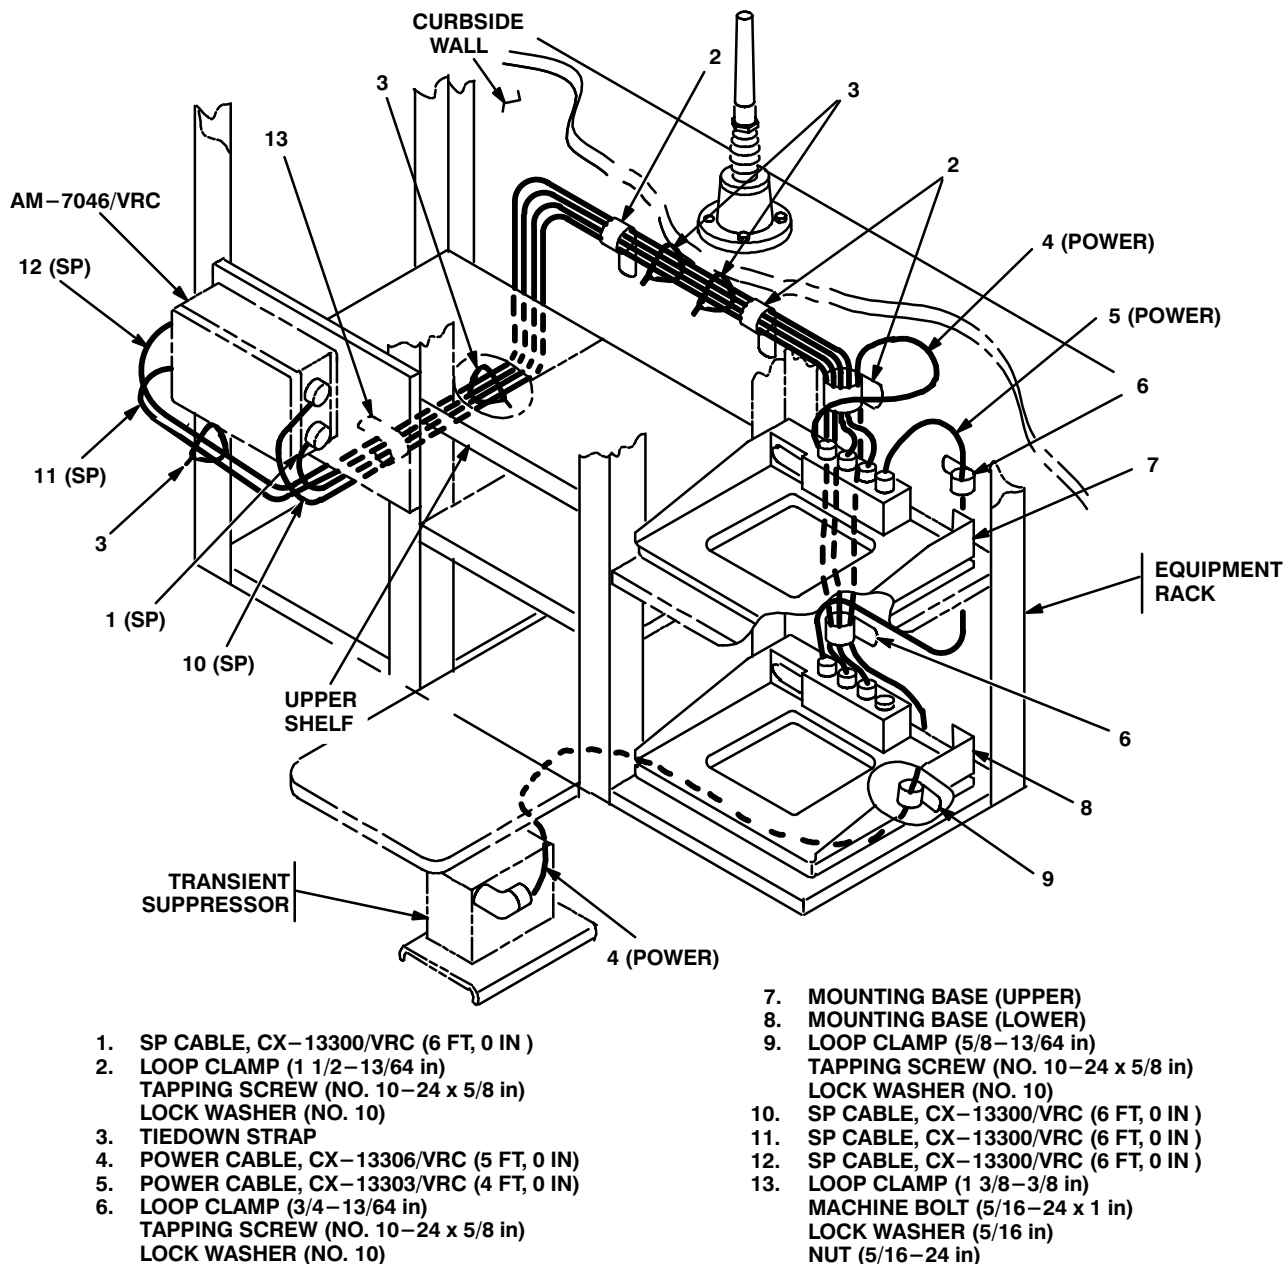

Figure 5-5 (3). Cable Installation: SP and Power Cabling
u. SP cable (11) connector P1.	Connect and secure to AM-7046/VRC connector J511. See figure 5-5 (3).
v. SP cable (12) connector P1.	Connect and secure to AM-7046/VRC connector J509.
w. SP cable (10) connector P1.	Connect and secure to AM-7046/VRC connector J501.